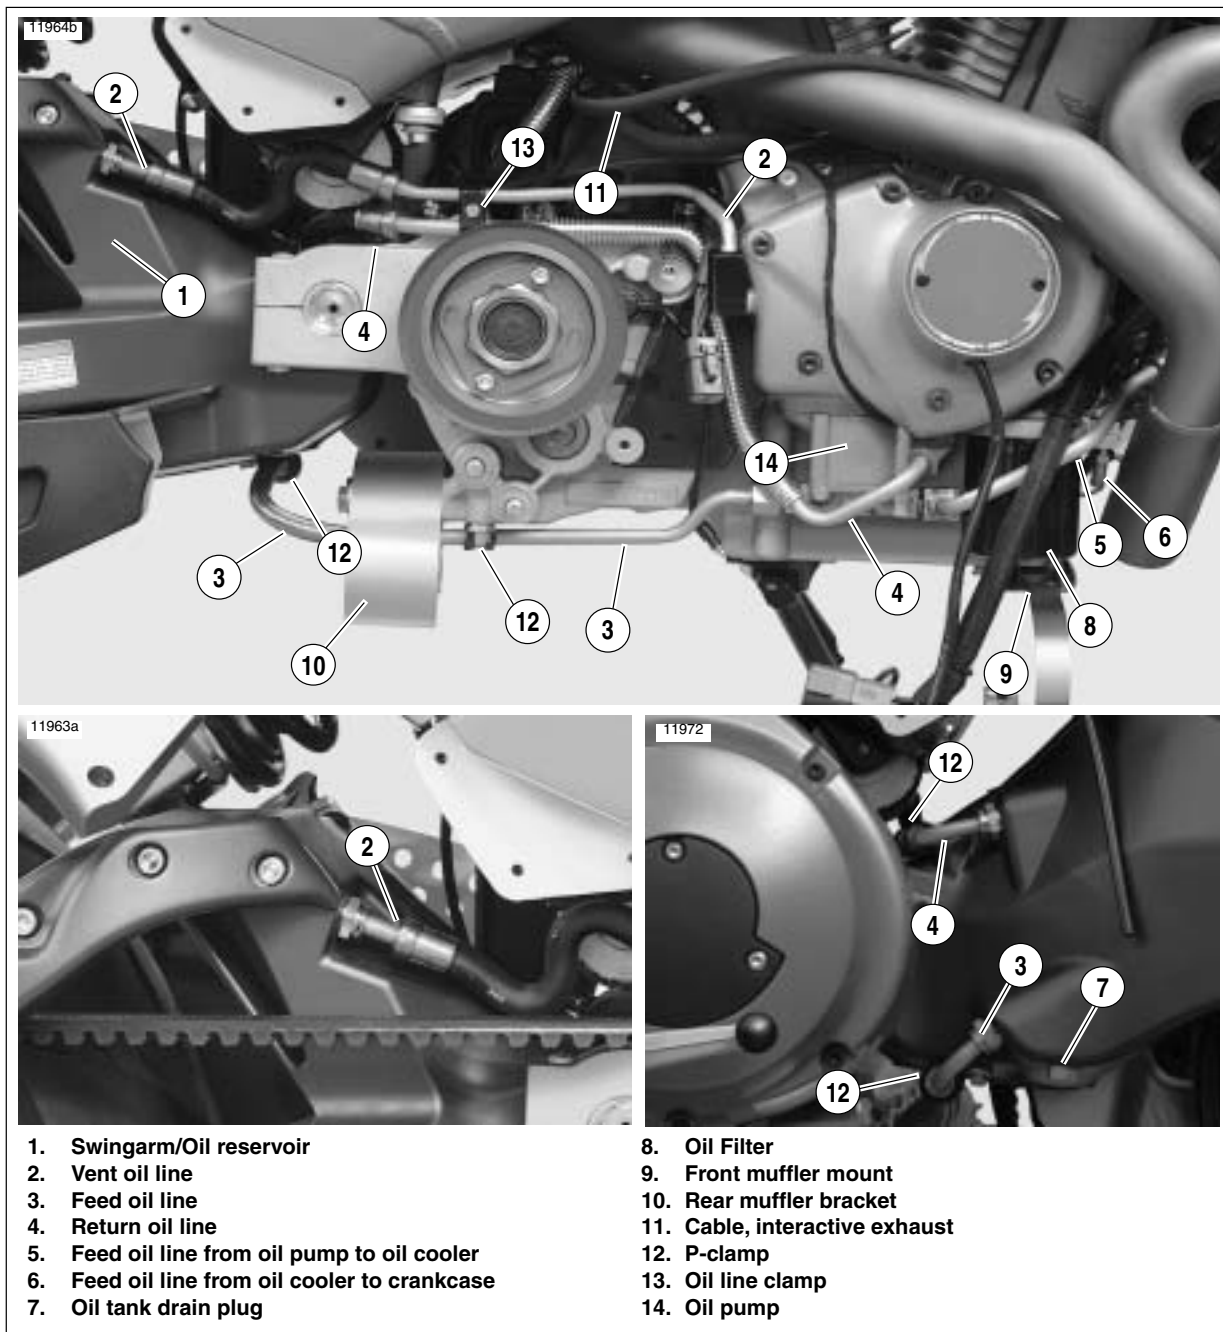

Figure 3-16. Oil Lines and Connections
17. See Figure 3-16. Remove oil filter (8).
- b. Remove the cable straps holding regulator wiring harness in order to extend the harness to remove "V" bracket. Disconnect alternator connector (6) [46] and voltage regulator connector (1) [77].
- d. Remove front tie-bar (7) from "V" bracket.
- e. Remove front tie-bar (7) from engine.
20. See Figure 3-16. Remove center tie-bar (13) from engine.
21. Remove rear tie bar (21) from frame.
25. See Figure 3-16. Remove vent oil line (2).
- a. Remove vent line fitting protective cover and disconnect vent oil line (2) at gearcase cover.
- b. Remove clamp (13) in front of starter securing vent oil line to return oil line.
- c. Disconnect vent oil line at swingarm/oil reservoir (1) and remove. See Figure 3-16. Oil Lines and Connections.
26. See Figure 3-16. Remove feed oil line (3).
- a. Loosen fitting at oil pump (14).
- b. Remove two p-clamps (12) from feed oil line (one on crankcase and one on swingarm/oil reservoir).
- c. Remove feed oil line (3) at oil pump (14).
27. See Figure 3-16. Remove return oil line (4).
- b. See Figure 3-16. Loosen fitting at oil pump (14).
- c. Remove p-clamp (12) at swingarm/oil reservoir (1).
- d. Disconnect oil return line (4) at swingarm/oil reservoir (1). See 3.10 OIL LINE FITTINGS.
- e. Disconnect oil return line (4) at oil pump (14) and remove.